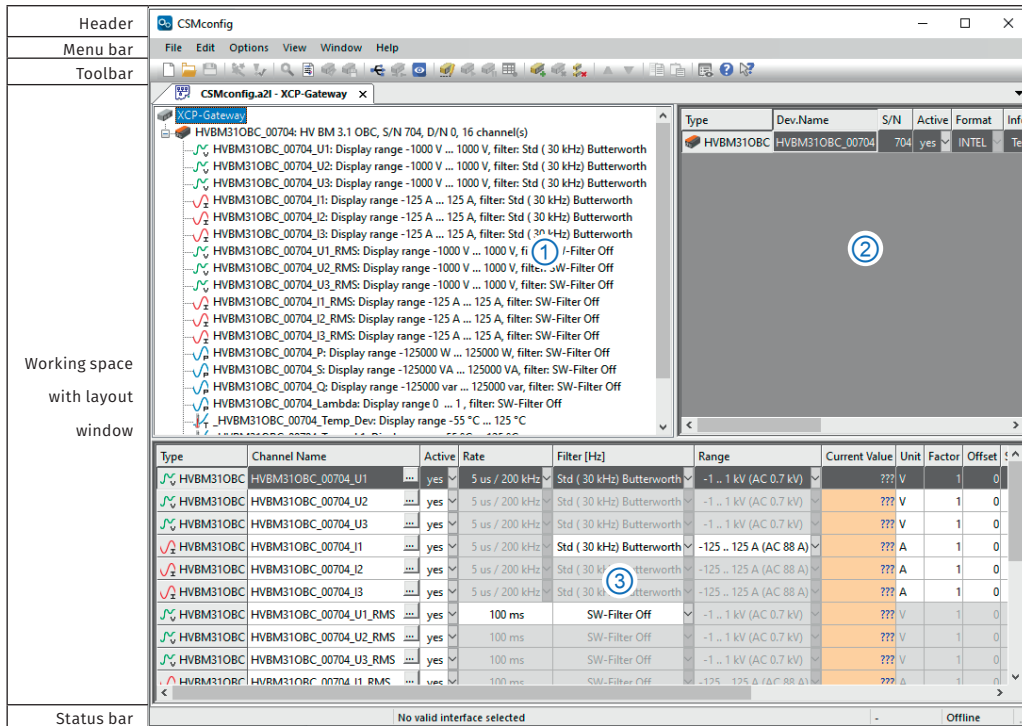

Fig. 5-2: CSMconfig user interface
- ▶ **Tree view** (Fig. 5-2, ①)
- ▶ **Device list** (Fig. 5-2, ②)
- ▶ **Channel list** (Fig. 5-2, ③)